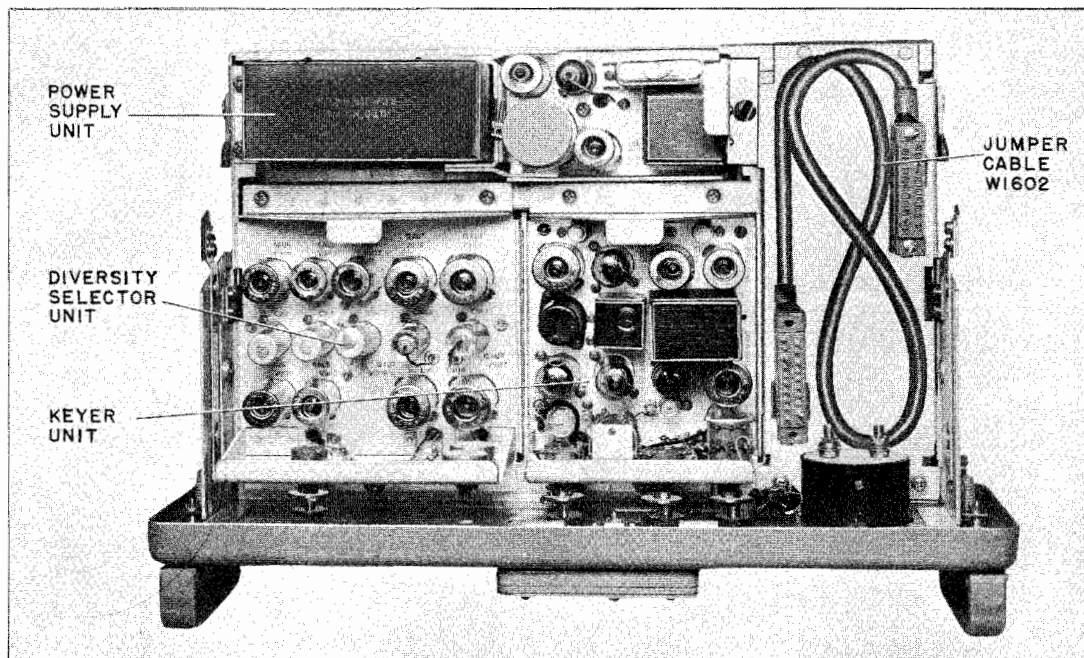

Figure 1-5. Comparator CM-14/URR, Chassis Top View
(1) COMPARATOR CHASSIS. — See Figure 1-5. The Comparator Chassis supports all the Comparator units except the Cable Filter Unit which is mounted on the back of the case. The units are interconnected by plugs and jacks when inserted in place. A plug, J1601, on the rear of the Comparator Chassis connects the chassis to J1301 on the Cable Filter Unit when in operating position. For servicing, the chassis can be slid out of the cabinet and locked in any one of four positions while still supported by cabinet rails. A jumper cable is provided for connecting the chassis (similar to that shown in Figure 3-15) with the Cable Filter when the chassis is withdrawn from the cabinet. An air filter and cover, in the center of the panel, cover the controls requiring only occasional adjustment, but make them readily accessible by a half-turn screw holding the cover against the panel.